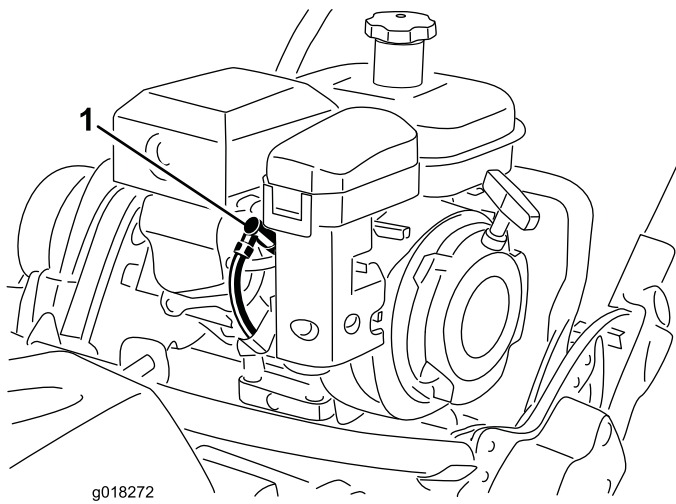

Figure 34
1. Pull the molded wire off the spark plug (Figure 34).